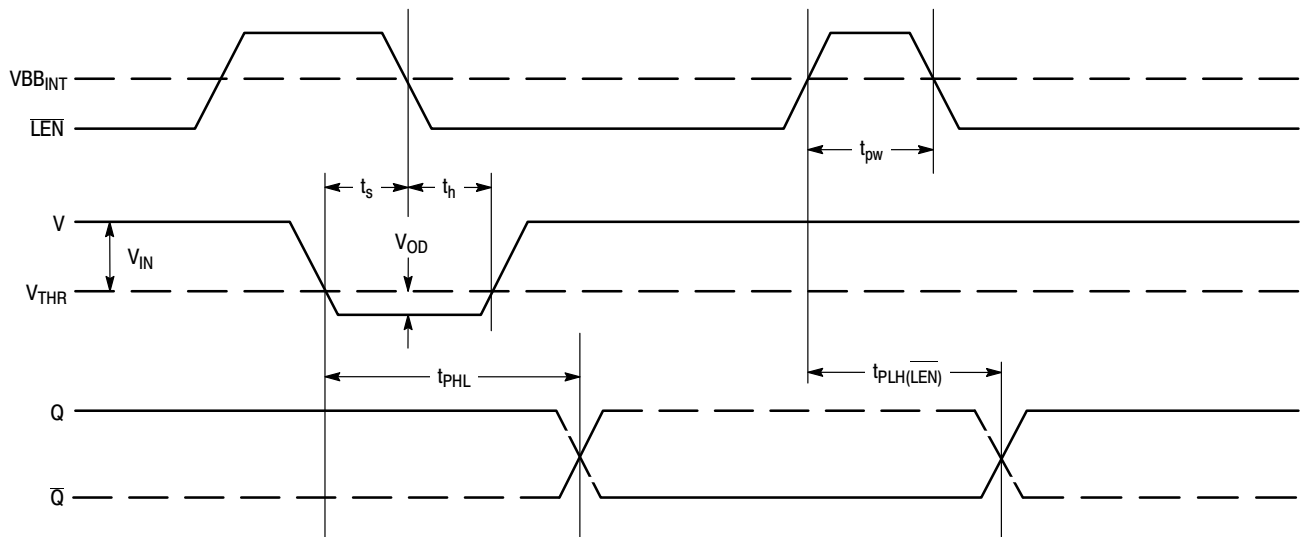

Figure 5. Input/Output Timing Diagram
12. Refer to Figure 5 and note that the input is at 2.5 V TTL levels with the input threshold range between the 20% and 80% points. The delay is measured from the crosspoint of the input signal and the threshold value to the crosspoint of the Q and  $\bar{Q}$  output signals.
The timing diagram (Figure 5.) is presented to illustrate the MC10E1652's compare and latch features. When the signal on the  $\overline{\text{LEN}}$  pin is at a logic high level, the device is operating in the "compare mode," and the signal on the input arrives at the output after a nominal propagation delay ( $t_{\text{PHL}}$ ,  $t_{\text{PLH}}$ ). The input signal must be asserted for a time,  $t_s$ , prior to the negative going transition on  $\overline{\text{LEN}}$  and held for a time,  $t_h$ , after the  $\overline{\text{LEN}}$  transition. After time  $t_h$ , the latch is operating in the "latch mode," thus transitions on the input do not appear at the output. The device continues to operate in the "latch mode" until the latch is asserted once again. Moreover, the  $\overline{\text{LEN}}$  pulse must meet the minimum pulse width ( $t_{\text{pw}}$ ) requirement to effect the correct input-output relationship. Note that the  $\overline{\text{LEN}}$  waveform in Figure 5. shows the  $\overline{\text{LEN}}$  signal swinging around a reference labeled  $\text{VBB}_{\text{INT}}$ ; this waveform emphasizes the requirement that  $\overline{\text{LEN}}$  follow typical ECL 10KH logic levels because